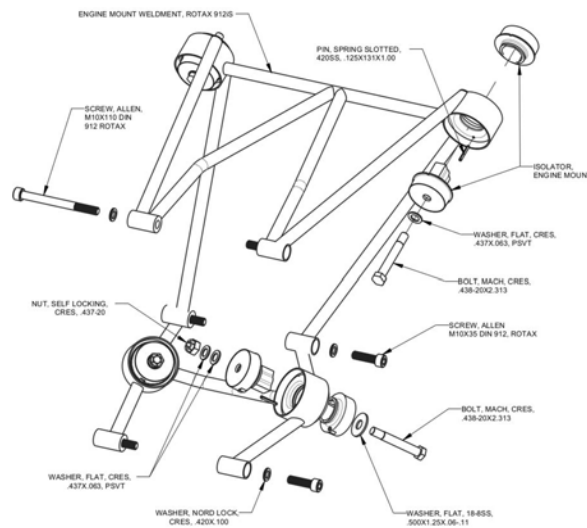

FIGURE 17-11
11. Loosely attach the engine at the aft two mounting points. (See Figure 17-11.) Install each bolt up from inside the fuselage with one washer under the head and with a self-locking nut with two washers under it. Do not tighten these fasteners yet.